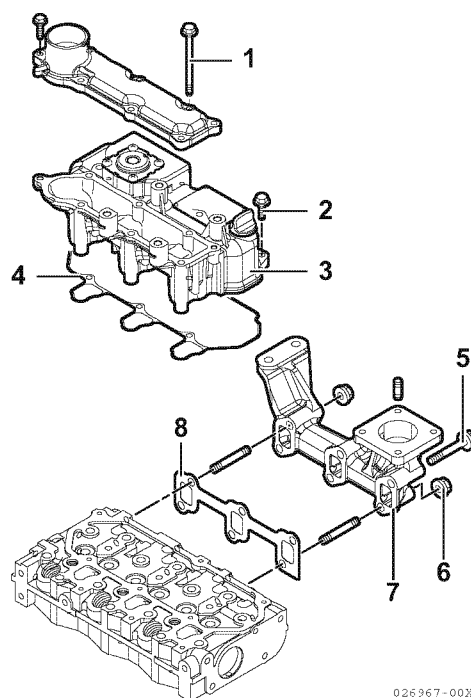

Figure 6-34
2. Lightly grease a new valve cover gasket (**Figure 6-34, (4)**). Place the gasket in the groove of the intake manifold/valve cover (**Figure 6-34, (3)**).
4. Install and tighten bolts (**Figure 6-34, (1 and 2)**) securely.
5. Install the exhaust manifold using a new gasket (**Figure 6-34, (8)**). Tighten the bolts and nuts (**Figure 6-34, (5 and 6)**) securely.